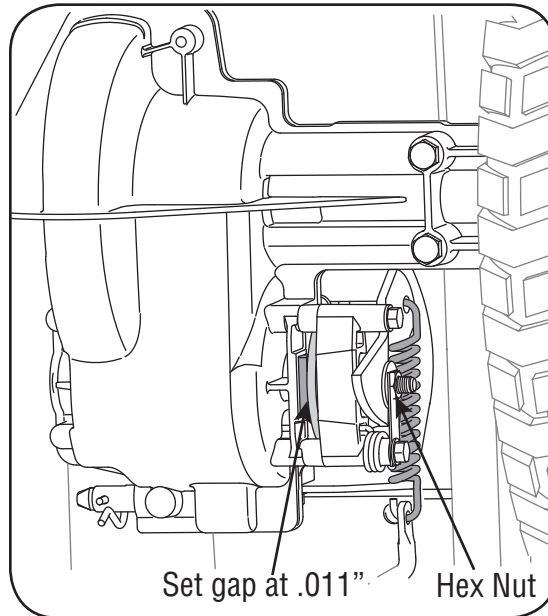

Figure 12
1. Looking at the transmission from the right side of the tractor, locate the compression spring and brake disc. See Figure 12.
2. Loosen, but do NOT remove, the hex nut found on the right side of the brake assembly. See Figure 12.